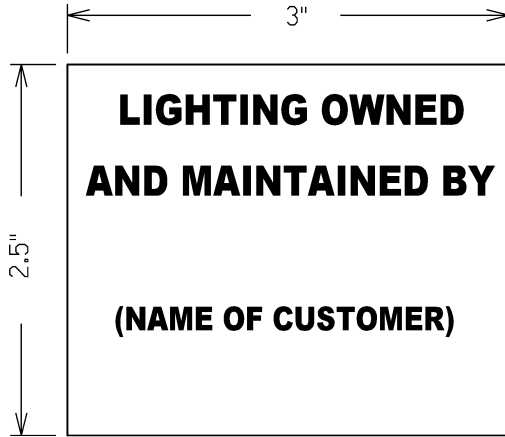

Figure 15 – Ownership Identification Label for Customer Owned Outdoor Luminaires
19.8.40 Ownership Identification: The customer is responsible to label all customer owned outdoor lighting luminaires in accordance with PPL Construction Standards. See Figures 15 and 16.